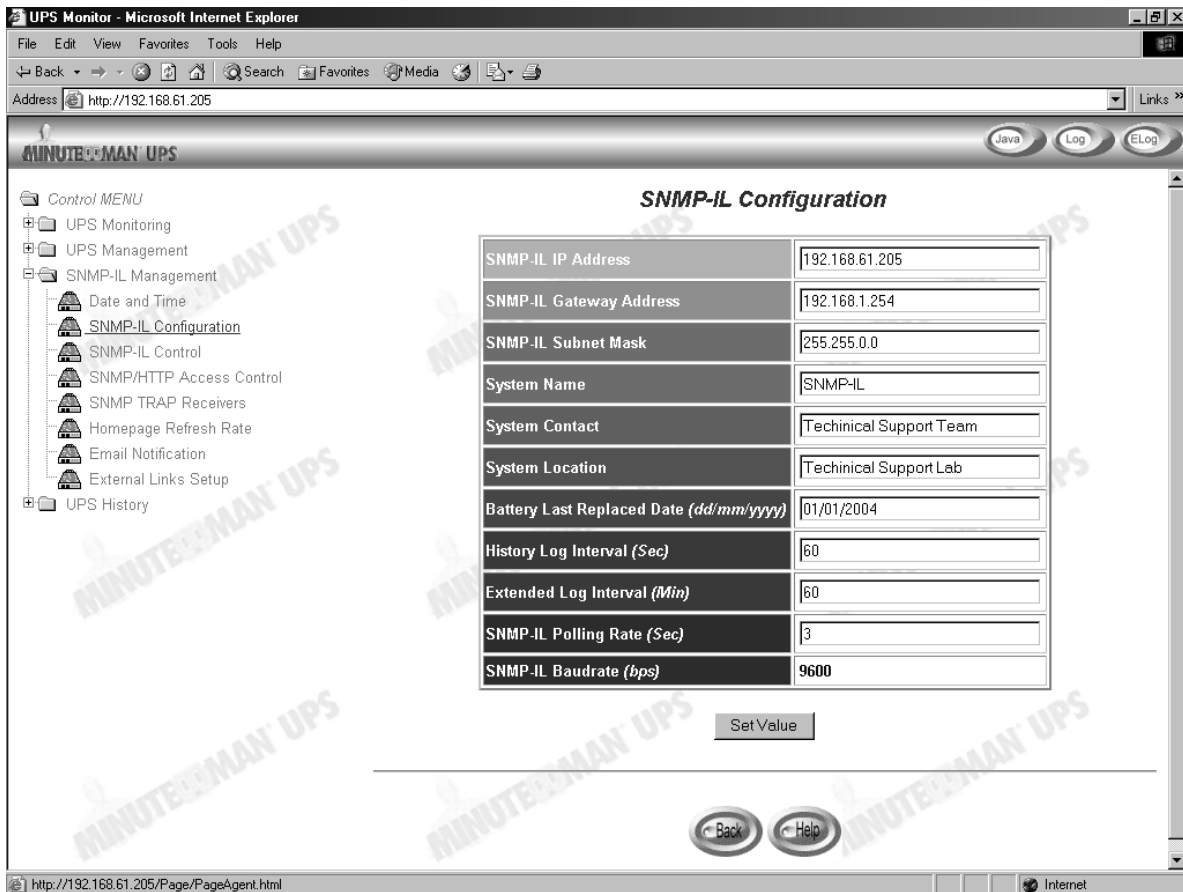

Figure 2-14 SNMP-IL initial configuration page.
1. Select SNMP-IL Configuration from the SNMP-IL Management of the main menu to setup the network configuration parameters (Figure 2-14).